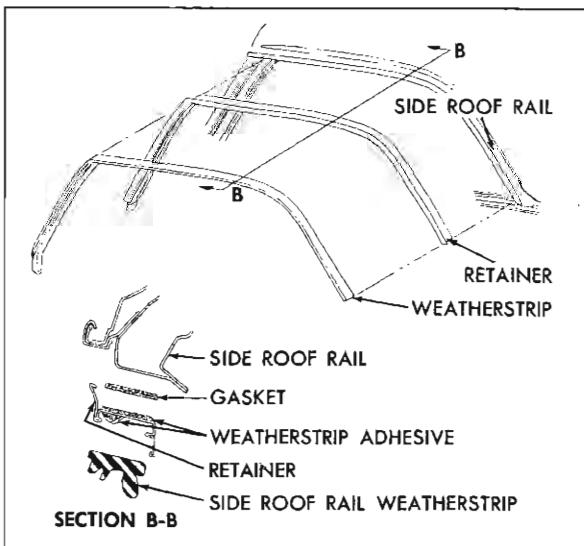

Fig. 3-49 Side Roof Rail Weatherstrip "47" Style
2. Apply a continuous bead (approximately $\frac{3}{16}$ " diameter) of weatherstrip adhesive along entire outboard surface of side roof rail weatherstrip retainer (See Section "B-B" in Figure 3-49 for 47 styles and 3-50 for 39 and 57 styles.)